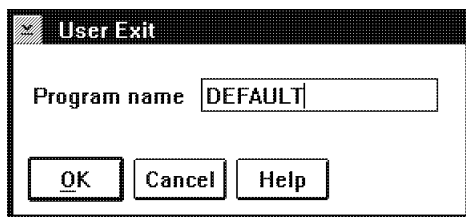

Figure 31. User Exit Window
1. Double-click mouse button 1 on the user exit node in the work process diagram. You see the User Exit window shown in Figure 31.